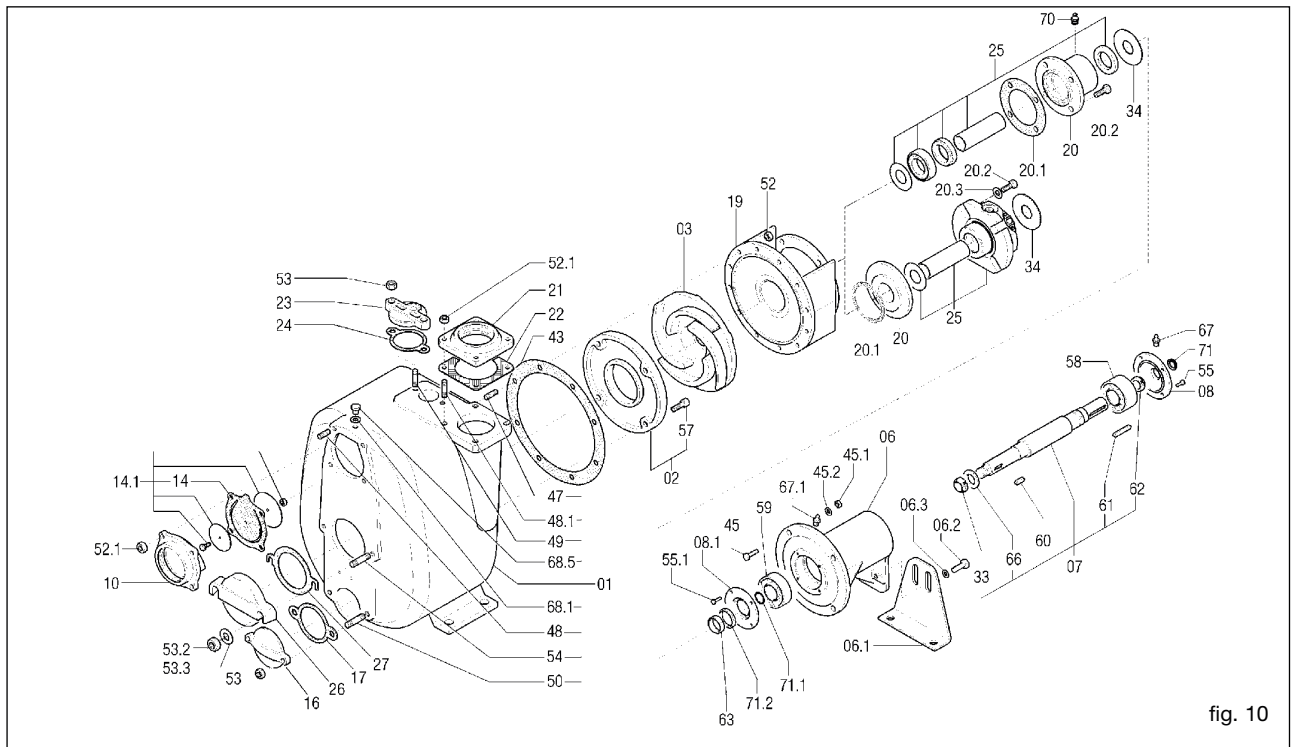

fig. 10
The suction line must have a diameter equal to that of the pump suction port (for diameters greater than that of the pump port, consult Varisco). If possible, avoid curves, elbows and constrictions which can limit the flow of liquid to the pump. Do not install a foot valve: the pump has a non return valve (14) incorporated in the suction port (fig. 10).
An exploded view drawing is provided as an example (fig. 10).
13.2 Replacing the impeller (fig. 10)
- Unscrew the nuts (52) and remove the pump casing, taking care not to damage the casing gasket (43)
- Block the impeller (03) and unscrew the self-locking impeller nut (33)
- If necessary, replace the casing gasket (43)
13.3 Replacing the wear plate (fig. 10)
- Unscrew the wear plate screws (57)
- Remove and replace the wear plate (02)
13.4 Replacing the check valve (fig. 10)
13.5 Replacing the mechanical seal type 1 - 2 - 3 (figs. 10, 11, 12)
- Remove the nuts (52) and remove the casing (01).
- Block the impeller (03) and remove the self-locking impeller nut (33)
- Remove the head (19). The rotating part of the seal (40) mounted on the shaft sleeve (31) will slide off the shaft together with the head
- Remove the stationary seat (39) and its gasket (38) from the head
- Remove the lip seal (41)
- Tighten the head screws (45) and nuts (45.1)
- Smear the gasket of the rotating seal seat (40) and the shaft sleeve (31) with oil and slip the seal on to one end of the shaft sleeve
- Mount the seal support ring (25.1). Push this forward until it is possible to reassemble the impeller key (60)
- Reassemble the impeller (03), the impeller washer (66) and tighten the impeller nut (33)
- Reassemble the casing gasket (43) after smearing both sides with grease
13.6 Replacing type 4 - 5 cartridge seals (fig. 10, 13, 14, 15, 16)
- Unscrew the nuts (52) (fig. 10) and remove the pump casing, taking care not to damage the casing gasket (43)
- In all models, the distance between the top of the impeller blades and the surface of the wear plate must be between 0.3 - 0.6 mm (fig. 19). For the 12" model, the distance between the impeller and the front and rear wear plates must be between 0.6 - 1 mm (fig. 22). To achieve this, dimensions A and B in figs. 17, 18, 20, 21 must be as nearly as possible equal. To this end, use the shims (25.2) (fig. 11) supplied with spare mechanical seals. These shims are used to move the impeller further forward if it is too far from the front wear plate or too near the rear wear plate. The shims should be mounted between the seal support ring (25.1) (fig. 11) and the impeller. Further adjustments can be carried out using casing gaskets (and rear wear plate gaskets on models which fit these). The presence of the casing gasket (43) (fig. 10) 0.5 mm thick then creates the correct distance (fig. 19).
13.8 Maintenance of the bearings (fig. 10)